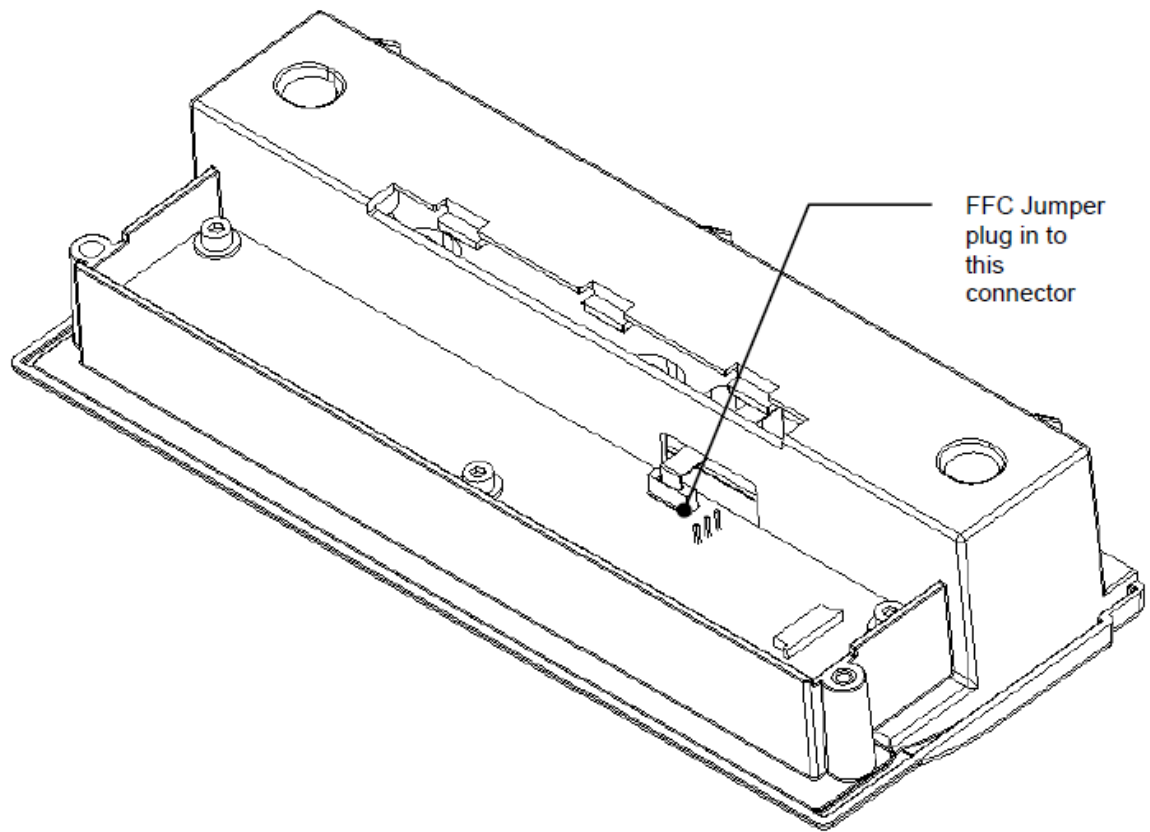

Figure L-9: Plugging the FFC Jumper into the PCB
3. Plug the loose end of the FC jumper (coming thru the slot) into the connector on the bottom of the PCB (Figure L-9).